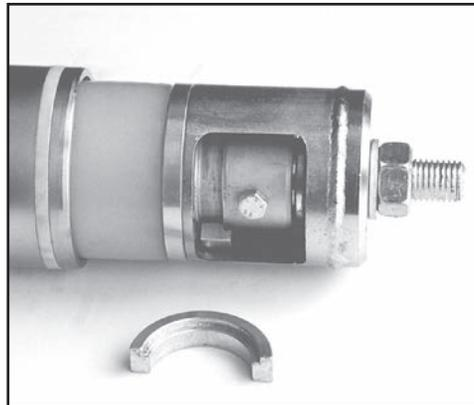

**FIG. 60: DISASSEMBLY TOOL**
8. Place the control tube end into the disassembly tool (see Fig. 60) until the bore of the tool overlaps the bores of the control tube.